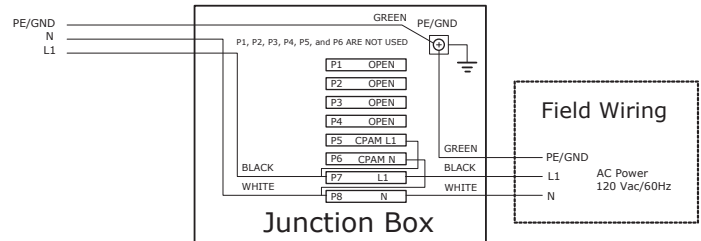

Figure 1. Junction Box Assembly
lead wire or the “Neutral” terminal block location in the junction box for correct polarity. See **Figure 1** (page 6).
4. Connect the ground wire from the power supply to the grounding lug inside the junction box. See **Figure 1** and **Wiring Diagrams** (page 50).